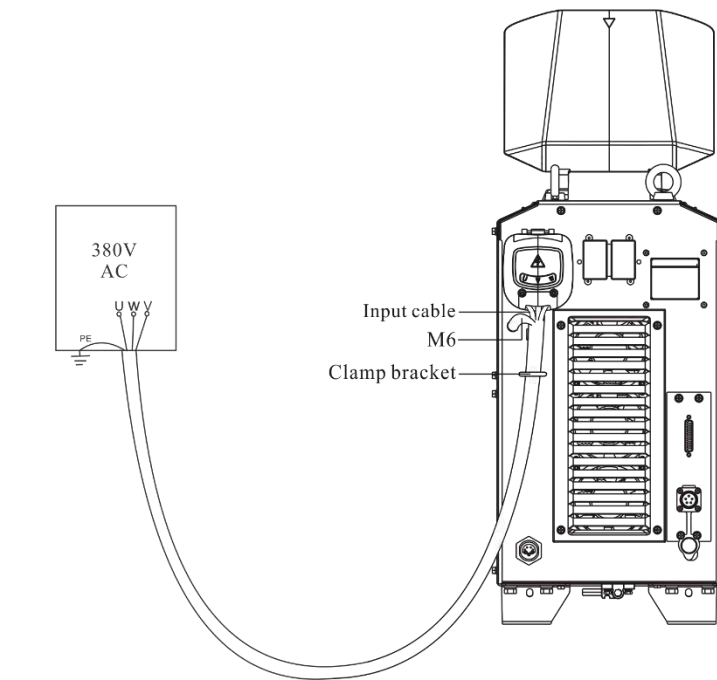

Figure2-6 Schematic diagram of 380VAC input power connection
4. Connect the other side of the power cable to the output terminal of switch on the distribution box and complete the connection. As shown in Figure 2-6.